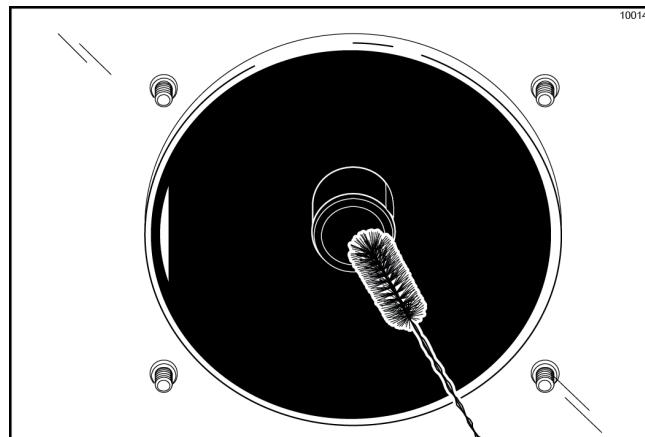

Figure-108
4. Return to the freezer with a small amount of cleaning solution. Using the black brush, clean the rear shell bearings at the back of the freezing cylinders. (See Figure-108.)